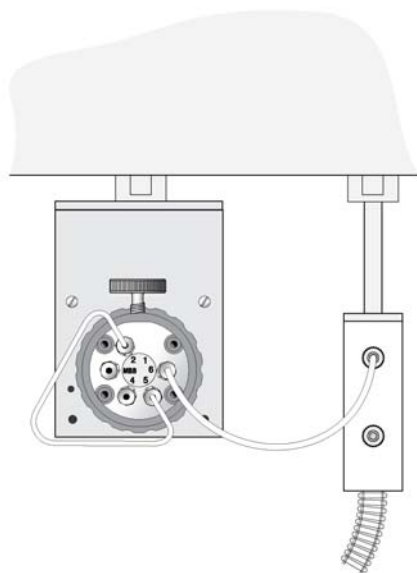

Figure 29 Solvent Line Plumbing on Rheodyne Valve PD Series
- 1 Connect the injection valve Waste Line from port 6 for the Agilent 1200 bar LC injection valve 5067-4123, as shown in Figure 29 on page 82, to the front Waste Port of the Wash Station